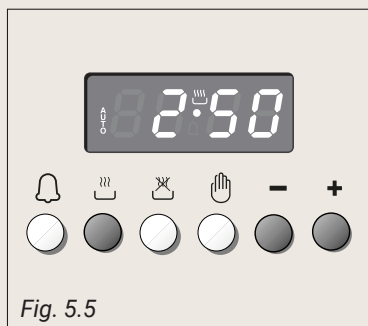

Fig. 5.5
1. Set the length of the cooking period by pushing the  button and the **+** button to increase, or **-** to decrease if you have passed the desired time (fig. 5.5). The **AUTO** and the  symbol will illuminate.